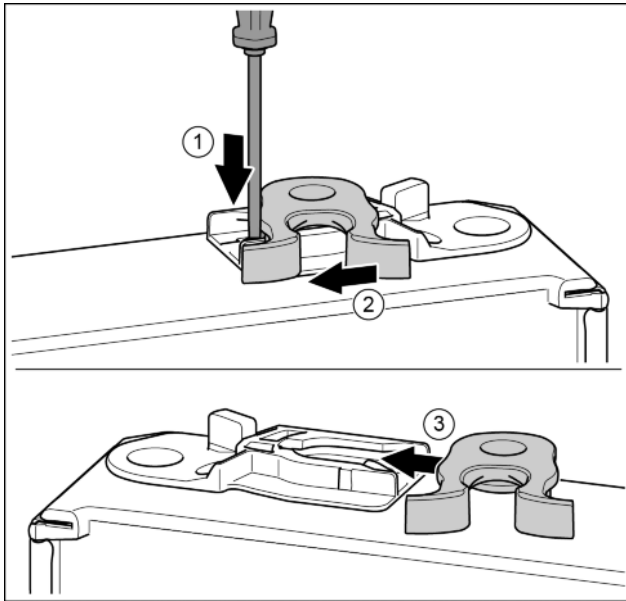

Fig. 13
- ▶ Push the tab downwards with a slotted screwdriver. Fig. 13 (1)
- ▶ Pull the door latch out of the guide. Fig. 13 (2)
- ▶ Push the door latch into the guide on the other side. Fig. 13 (3)